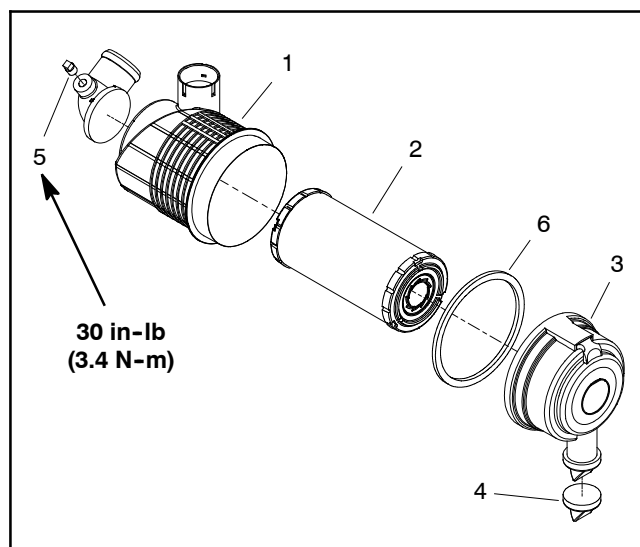

Figure 4
5. Disassemble air cleaner as necessary (Fig. 4).
- A. If plug (item 5 in Fig. 4) was removed from air cleaner housing, apply sealant to threads of plug before assembly. Torque plug to **30 in-lb (3.4 N-m)**.